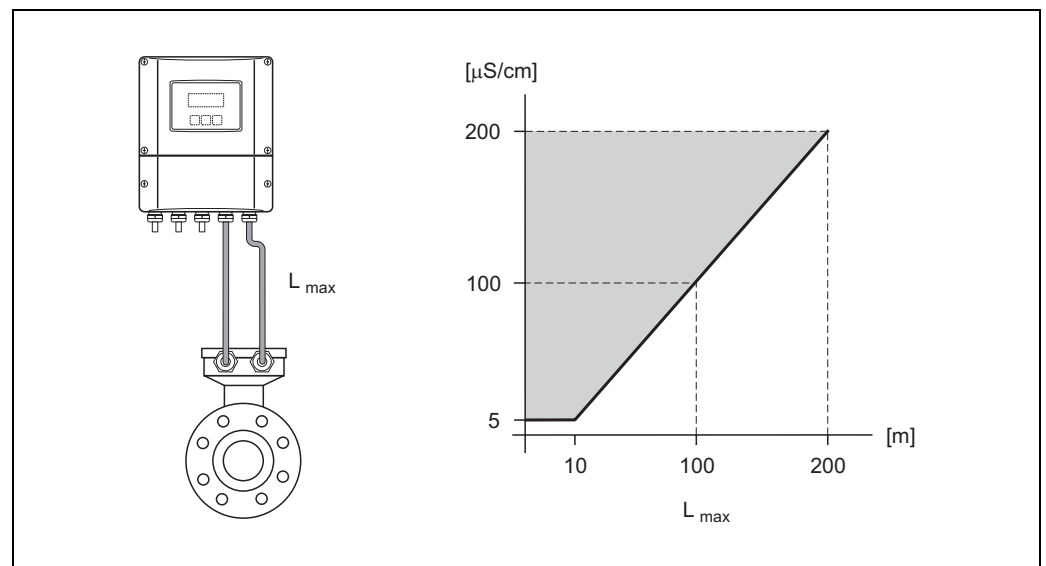

Fig. 17: Permissible cable lengths for the remote version
- The permissible cable length $L_{\max}$ depends on the fluid conductivity (Fig. 17). A minimum conductivity of $20 \mu\text{S/cm}$ is required for measuring demineralized water.